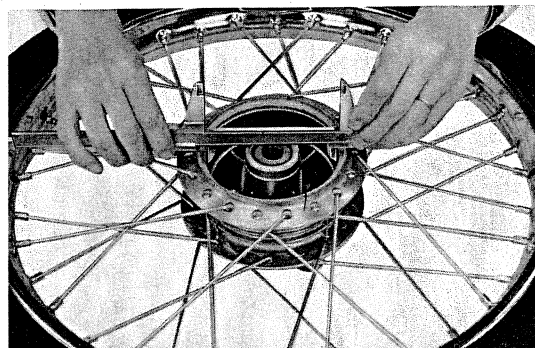

Fig. 112 Rear brake drum measurement
- 4) Check wear of brake drum using a caliper. (Fig. 112)